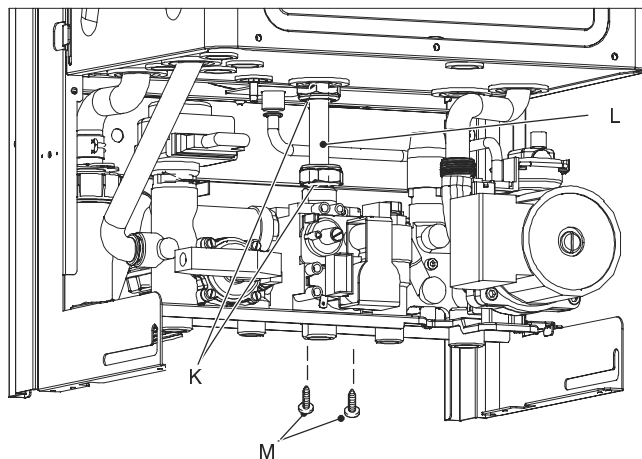

Fig. 11.10
- 5 Unscrew the connectors *K* and remove the pipe *L* (Fig. 11.10).